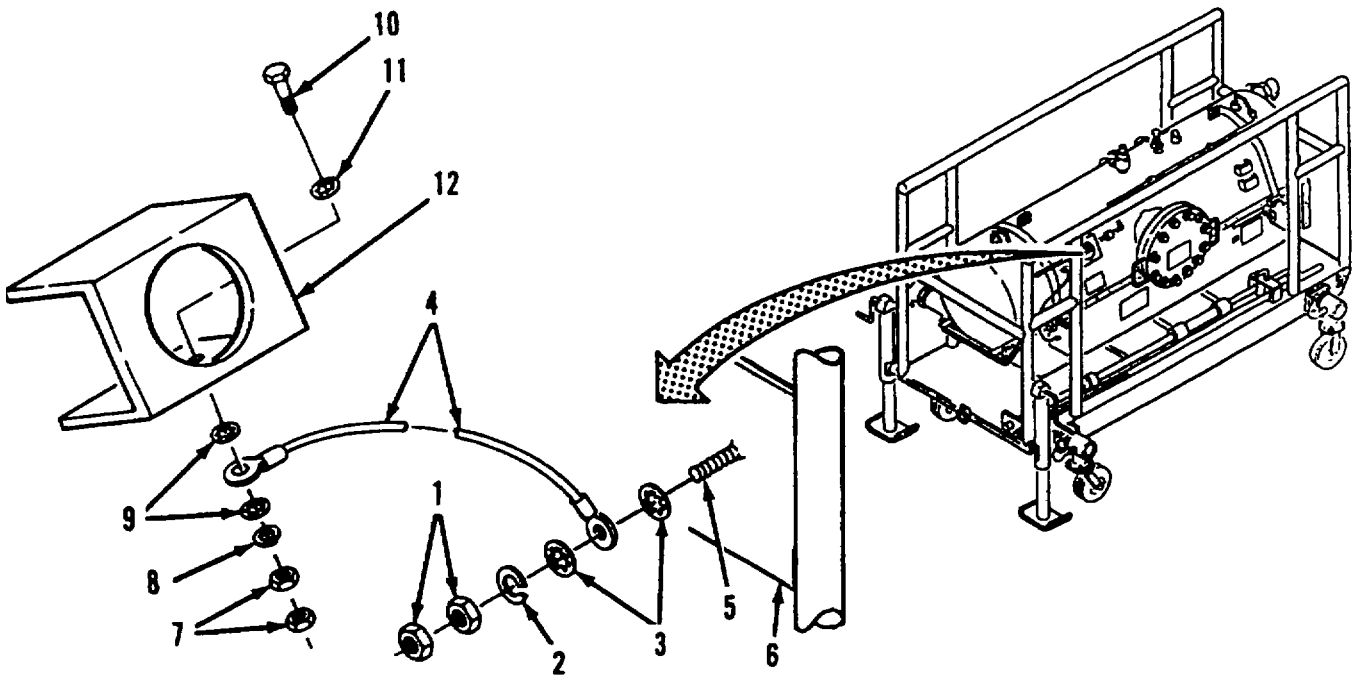

Figure 4-5. Jumper Cable Replacement
b. **Jumper Cable** Refer to figure 4-5.